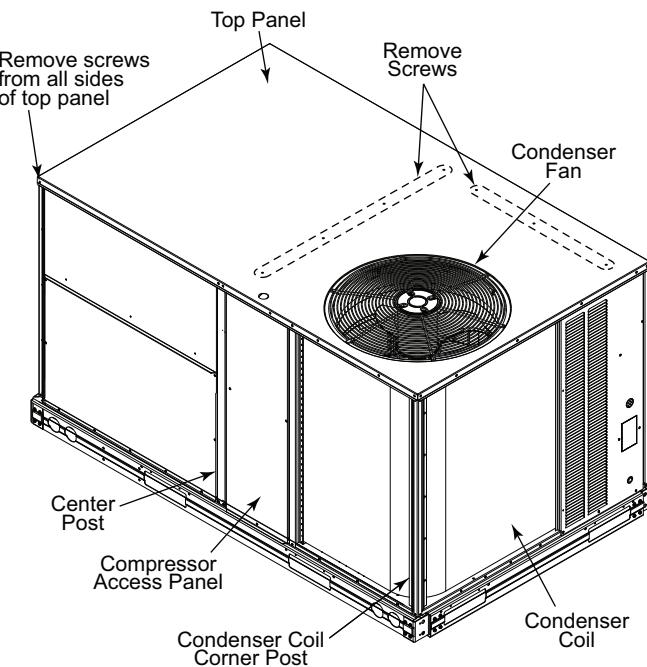
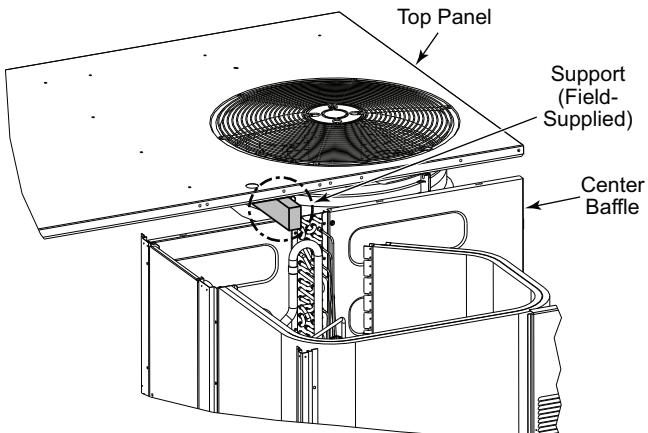

Fig. 19 — Location of Screws and Coil Corner Post
Fig. 20 – Propping Up Top Panel
2. Remove all screws from the top panel except the screws securing the condenser fan to the top panel. See Fig. 19.
3. Remove condenser coil corner post. See Fig. 19. To hold top panel open, place coil corner post between top panel and center post. See Fig. 20.